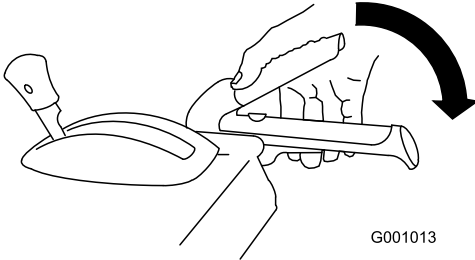

Figure 15
- To engage the broom, slowly squeeze the right broom lever to the handle (Figure 15).